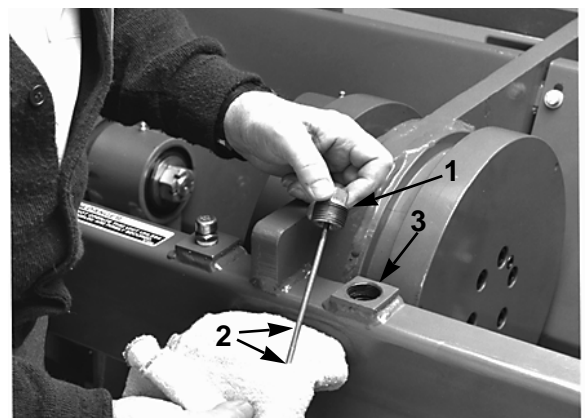
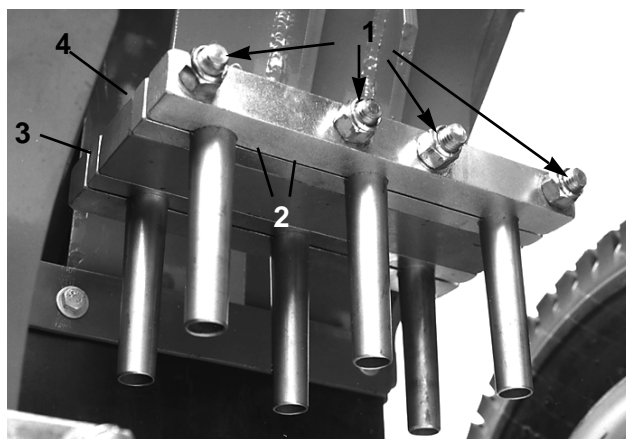

Figure 3
Figure 9
3. At the rear of the machine, remove the dipstick assembly from the reservoir. The oil level should be between the marks on the dipstick (Fig. 3). If oil is needed, add SAE EP 90W gear oil. Replace the gear case cover.
3. Remove the tine mounting locknuts and remove the tines (Fig. 3). Remove the rear tine blocks and slide the front tine blocks and studs out of the stomper assembly (Fig. 9).